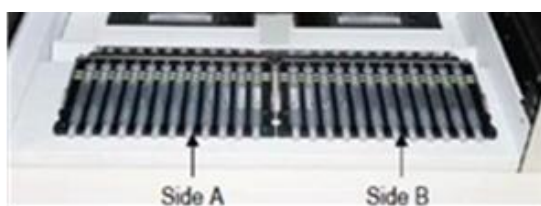

Figure 3: Load Rack(s) into the BD MAX System
15. Load rack(s) onto the BD MAX System (Figure 3).